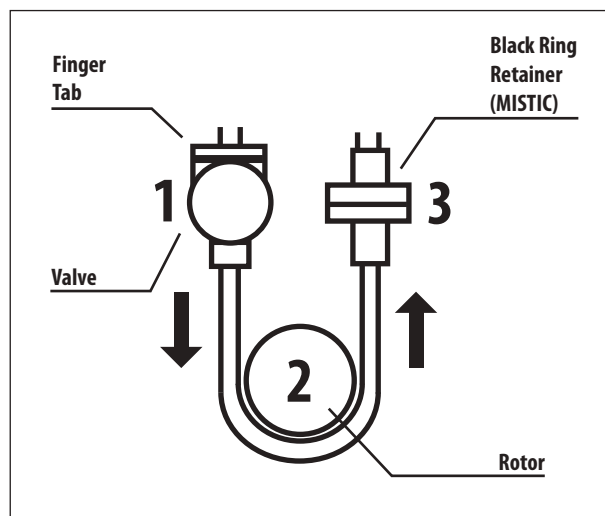

Figure 4. Installation of Pump Set.
3. To load Pump Set, refer to Figure 4:
- Grasp finger tab on valve and insert into left pocket (1).
- Grasp black ring retainer and gently stretch tubing around rotor (2). Pull up on retainer and insert into right pocket (3).